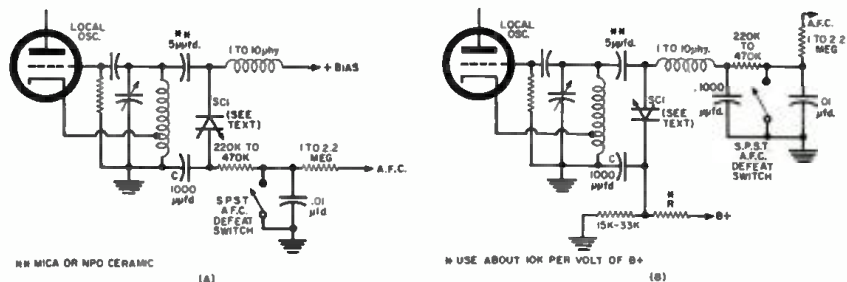

Fig. 2. Sample circuit configurations that may be employed with positive bias.
the oscillator coil in several different ways, but in each case provision must be made to permit application of a few volts of reverse bias to the diode and for the a.f.c. control voltage to work against this. As a positive voltage is easier to obtain in most receivers, both of the sample circuit configurations of Fig. 2 have been arranged for positive bias. This bias can be from 1 to 10 volts with no great effect on performance, although a voltage in the neighborhood of 1½ to 2 volts will give excellent control in most of the applications.
modulation should be avoided. It is, of course, desirable to connect the junction diode to the oscillator tank circuit with reasonably short leads and the capacitor (C) shown in the low side of the diode in both of the Fig. 2 diagrams should provide a fairly direct signal ground.